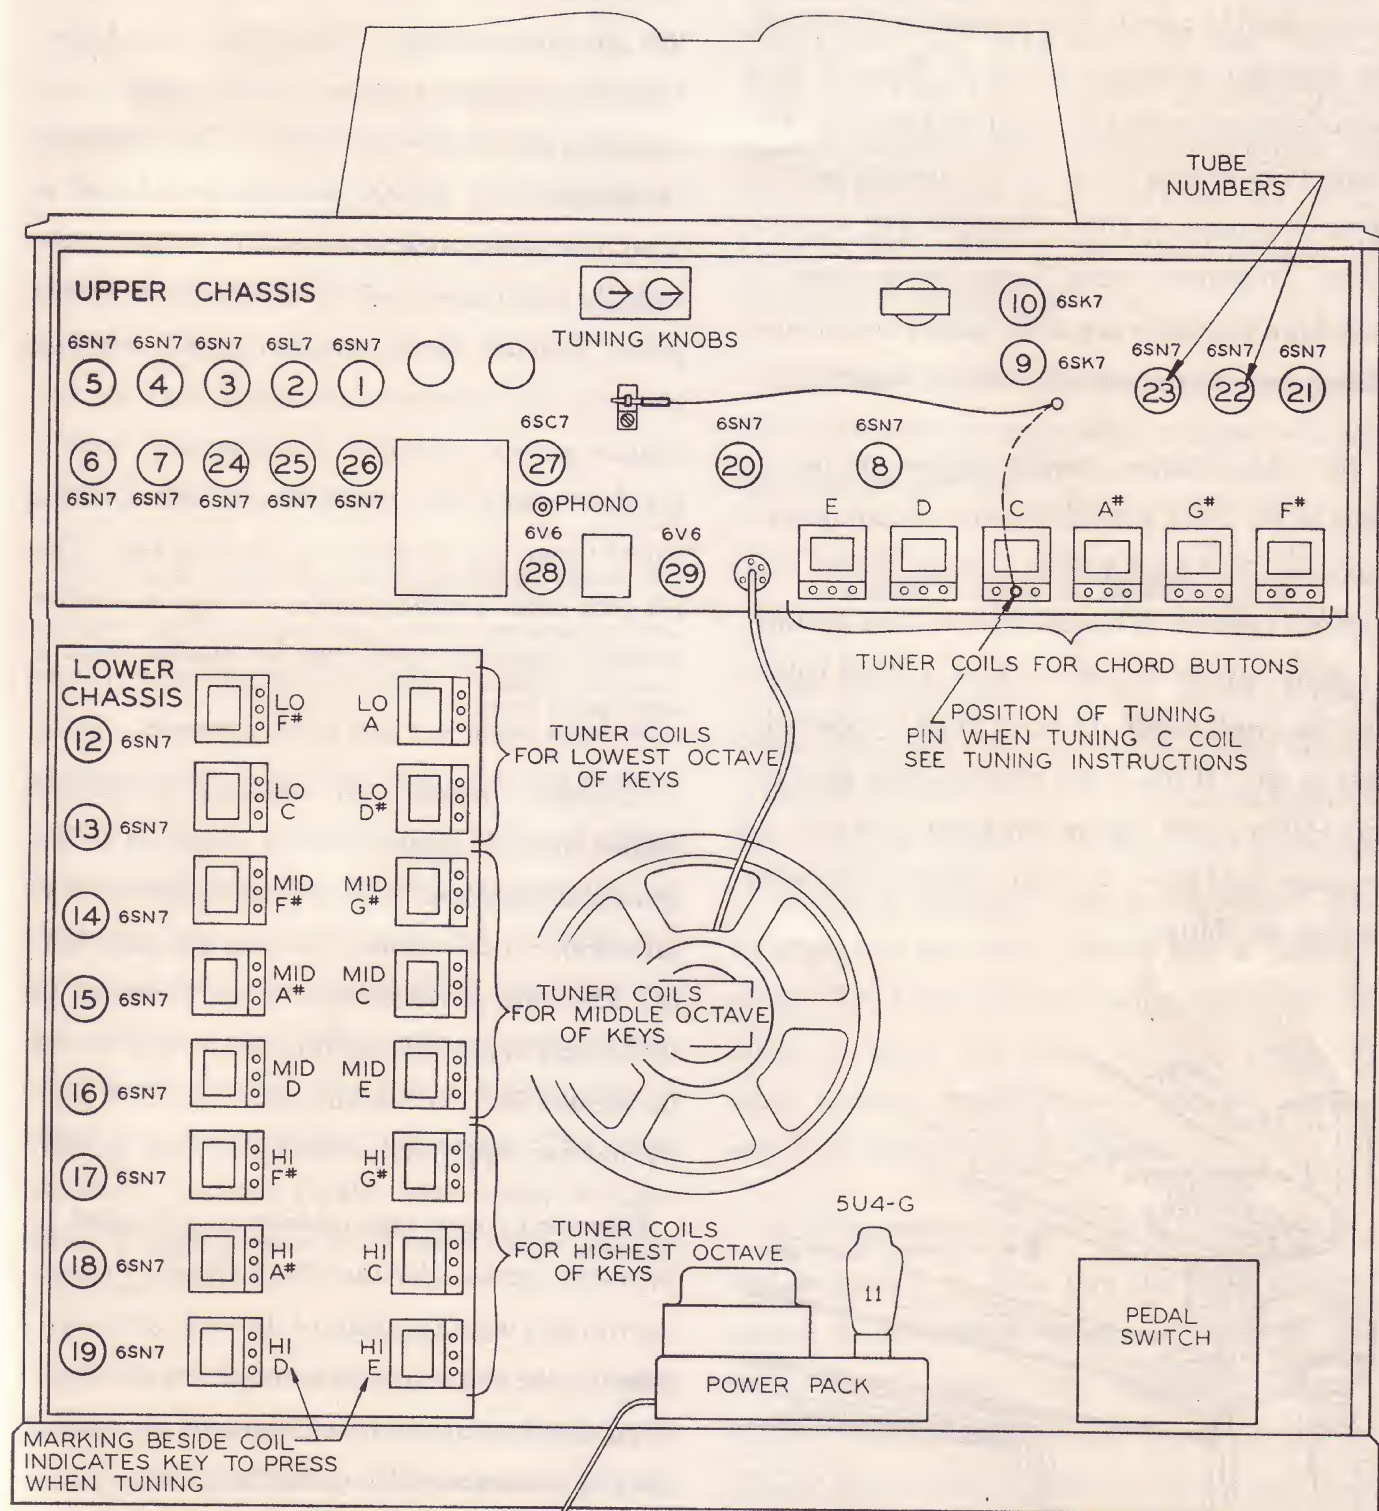
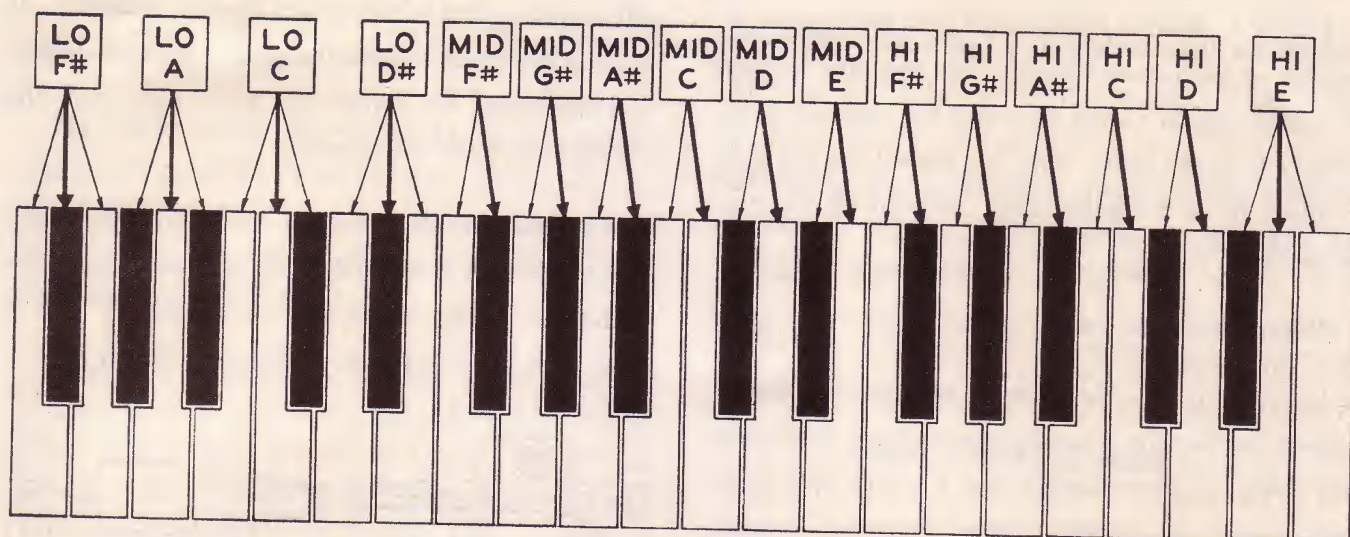

FIGURE 1
FIGURE 3
The most likely cause for service in the Chord Organ is a defective or worn-out tube. All tubes are standard radio types obtainable at any radio store, and all tubes are easy to change as they are readily accessible from the back of the console. Observe that in each case the type of tube (6SN7, 6V6, etc.) is stamped into the metal chassis next to the tube, as shown in Fig. 1. It is unnecessary that you understand electricity or how the organ works in order to replace a defective tube.
Start by pulling out tube No. 12 (see Fig. 1, where the tube is shown as ⑫ at the top of the lower chassis). This will give you a "spare" 6SN7 tube with which to test the other 6SN7 tubes. (Taking out this tube will make the bottom six keys on the keyboard dead when using the Organ stops only; of course, if the Organ tones of any of these six keys were dead before you removed this tube, No. 12 would be the defective tube.)
Radio, Phonograph, or Microphone. A radio, phonograph, or microphone amplifier will play through the Chord Organ speaker if connected to the pin jack marked "PHONO" on the Upper Chassis (see Figure 1, page 5). Your service man can make this installation for you. This input has an impedance of 100,000 ohms to ground, and a 1/4 mfd. blocking condenser should be used in series with the input signal. The phonograph or microphone amplifier should have an output level of about 1/2 volt maximum, and should have its own volume control, as neither the expression control nor the "Volume Soft" stop tablet will affect it. The Chord Organ may be played at the same time. The pin jack takes a standard type of single conductor shielded connector, which may be obtained from a radio parts store.
The Chord Organ may be tuned in several different ways. The simplest tuning may be done by merely turning the tuning knobs which are located inside at the back on the main chassis (see Figure 1, page 5). The owner can make such adjustments
The various notes of the keyboard may be individually tuned by adjusting the coils located in the Lower Chassis as shown in Fig. 1 on page 5. As here shown, each coil is marked with the corresponding keyboard note with which it should be tuned. It is to be observed that there are many more notes on the keyboard than there are coils. Each coil simultaneously tunes at least two adjacent notes on the keyboard and some coils tune three adjacent notes. Fig. 3 shows which notes on the keyboard are tuned by the various coils in the Lower Chassis. For example, the three lowest notes on the keyboard (Low F, Low F#, and Low G) are all tuned by the coil marked "LO F#." Thus, if there is any particular note (or group of adjacent notes) on the keyboard which seem to be out of tune, you can determine which coil to tune by using Fig. 3. Steps 1, 2, 3, and 4 below explain how to tune the keyboard notes.
coils are marked with corresponding keyboard notes. The upper left coil on the Lower Chassis is marked "LO F#," with letters stamped in the chassis. This is also shown in Figure 1 on page 5, which shows the positions of all the coils.
STEP 6. Press the middle F# key on the keyboard and wedge it down with a pencil at the back of the key so that the note will continue to sound. Hold the expression control in a position to secure adequate volume (for instance, by placing a chair against it). Now remove the tuning pin from its clip on the Upper Chassis and insert it into the center hole on the bakelite panel of the coil marked F# in the Upper Chassis (see Figure 1 on page 5). The added tone which is heard is one of those used for the Chord Buttons. If the "beats" are very slow, this coil does not require tuning adjustment.